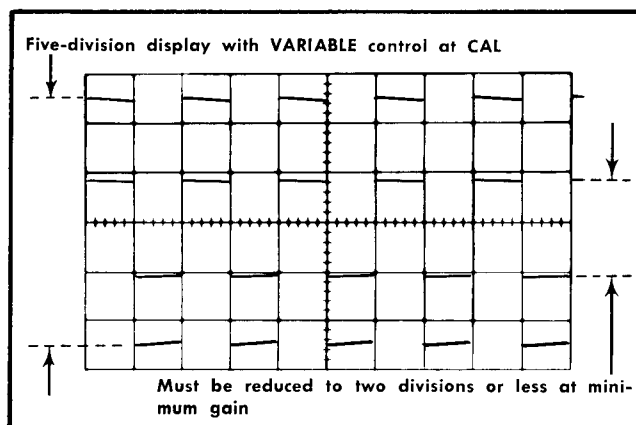

Fig. 6-20. Typical CRT display showing adequate Channel 1 and 2 VARIABLE control range (double exposure).
c. CHECK—Turn the CH 1 VARIABLE VOLTS/DIV control clockwise just past the CAL detent (minimum gain). Display should be reduced to two divisions or less (indicates adequate range for continuously variable deflection factors between the calibrated steps; see Fig. 6-20). CH 1 UNCAL light must be on when CH 1 VARIABLE control is not in CAL position.
e. CHECK—Turn the CH 2 VARIABLE VOLTS/DIV control clockwise just past the CAL detent (minimum gain). Display should be reduced to two divisions or less (indicates adequate range for continuously variable deflection factors between calibrated steps; see Fig. 6-20). CH 2 UNCAL light must be on when CH 2 VARIABLE control is not in CAL position.